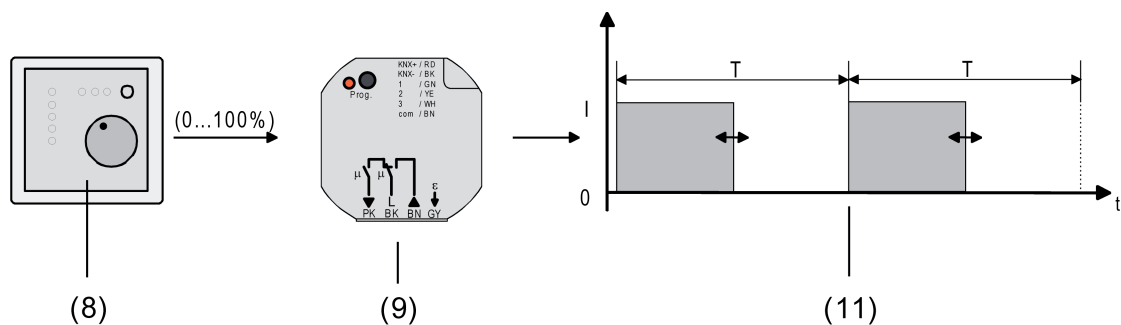

Figure 38: Command value principle for constant command value
- (8) Room temperature controller (command value "1-bit")
- (9) Combination actuator blind and heating
- (10) Switching output signal for valve drives
In normal operation, the value telegram received via the 1-byte "Command value" object is converted by the device into an equivalent pulse width modulated switching signal at the valve outputs (Figure 38). Taking the cycle time (T) settable in the device into account, the average output signal resulting from this modulation is a measure of the centred valve position of the control valve and thus a reference for the set room temperature (see "Pulse width modulation for constant command values and constant valve setpoint positions").